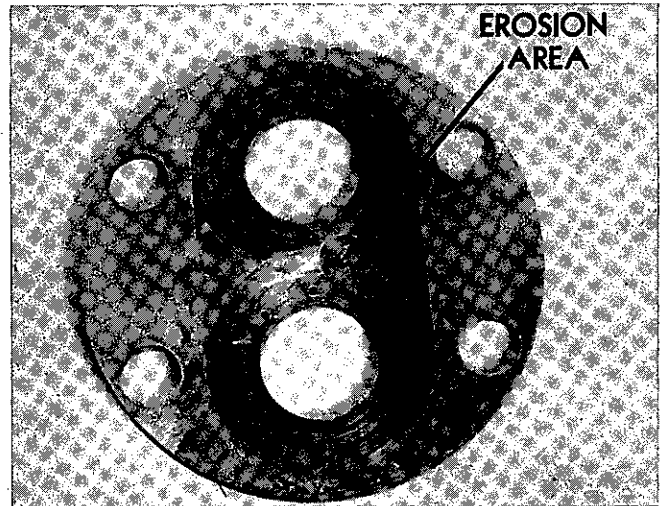

Figure 13
6. Replace wear plates that have severe score marks, heavy wear, or show erosion marks in the vicinity of the counterbored relief pocket. Note: Arrow designates erosion path in Figure 13. Caution: DO NOT REVERSE WEAR PLATES AS THE COUNTERBORED RELIEF POCKET IS ON ONE SIDE ONLY.